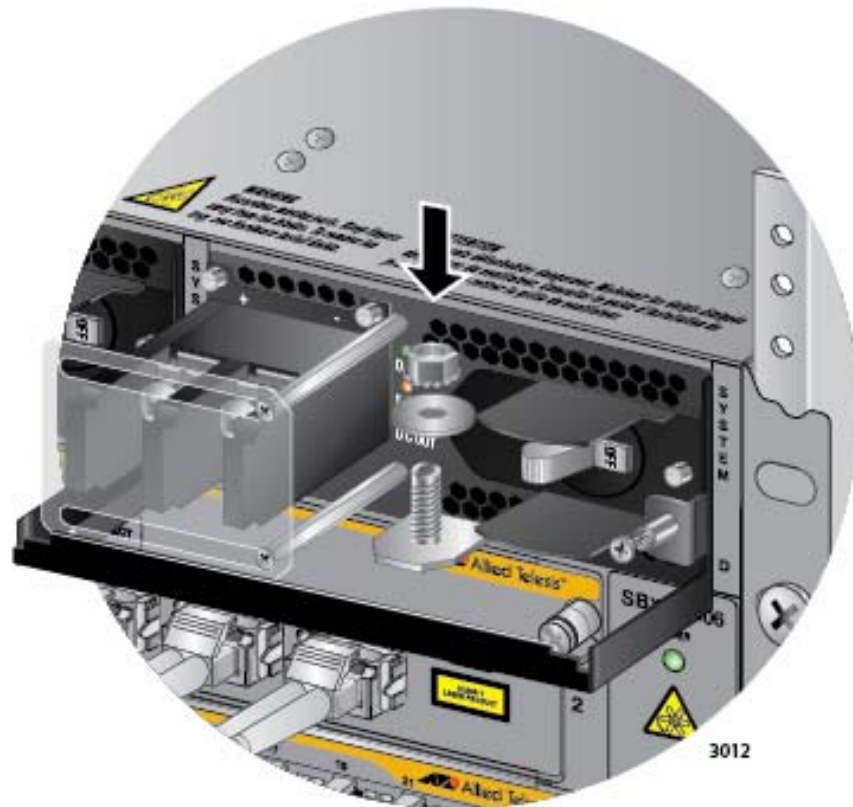

Figure 167. Reinstalling the Nut and Washer on the Grounding Post
10. Reinstall the nut and washer on the grounding post. Refer to Figure 167 on page 266.